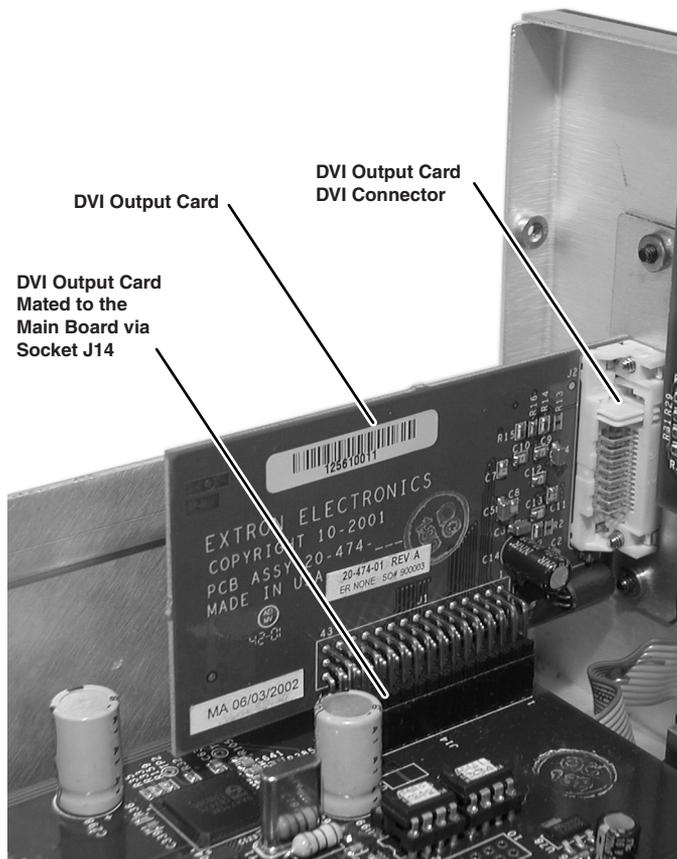

Figure 3 — Output DVI board installation
4. Carefully insert the DVI board 45-pin connector into socket J14 on the main circuit board (figure 3).